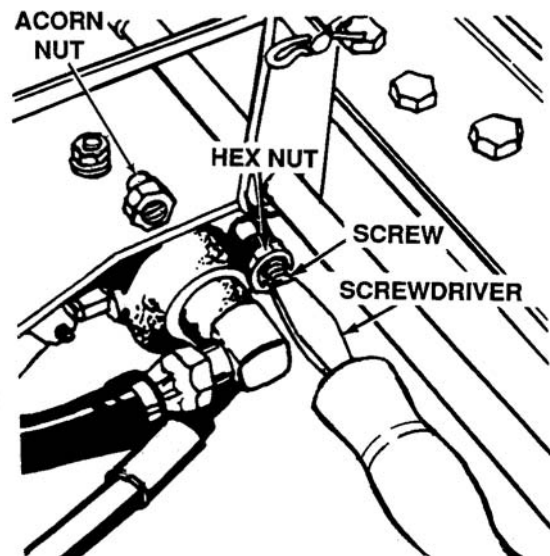

Figure 7-5. Adjusting Hydraulic Lift Valve
- a. Remove the acorn nut and washer. See Figure 7-5.